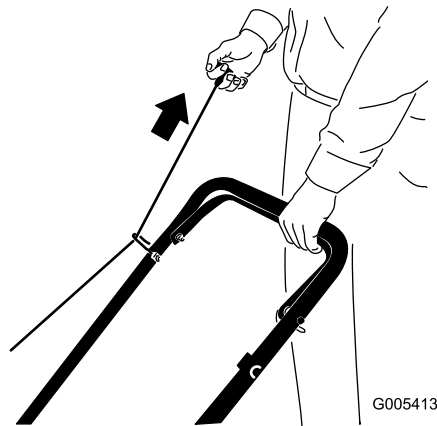
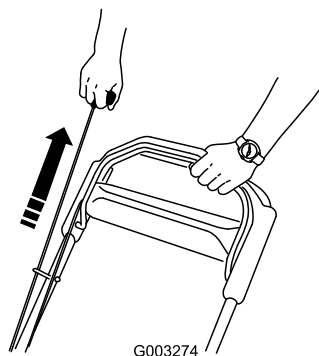

**Figure 15**
**Figure 16**
3. Hold the blade control bar against the handle (Figure 15) or (Figure 16).